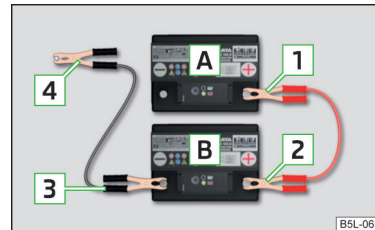

Fig. 179
- Attach clamp **1** to the positive terminal of the discharged battery **A** » Fig. 179.